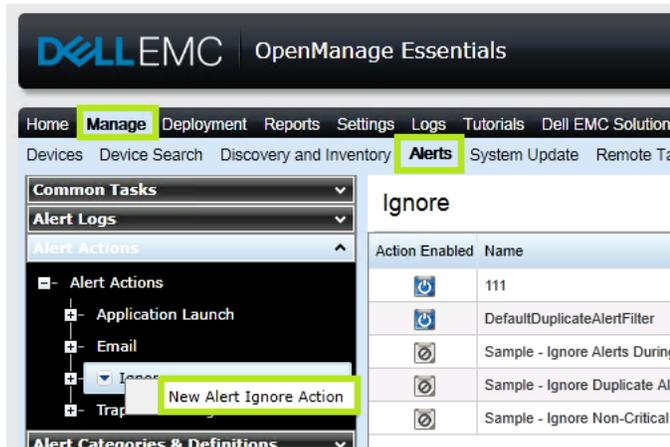

Figure 18 Creating A New Alert Ignore Action
1. Click **New Alert Ignore Action** as shown in Figure 18 and type a name.